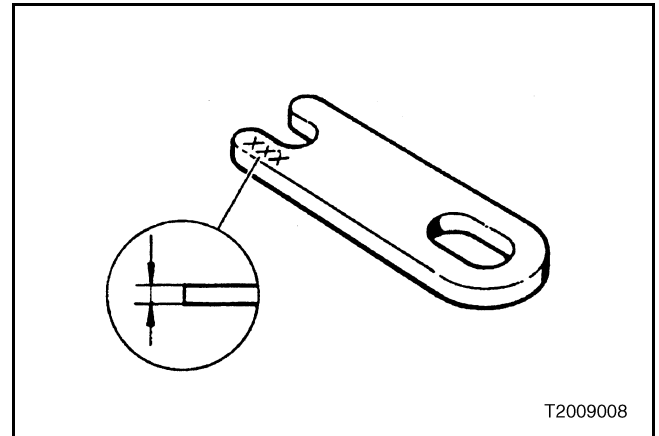

Figure 539 — Engine Compression Brake Adjustment Shim
4. If clearance is not within specification, adjust the clearance as follows, using shims (Figure 539) placed on top of the valve yoke (bridge).